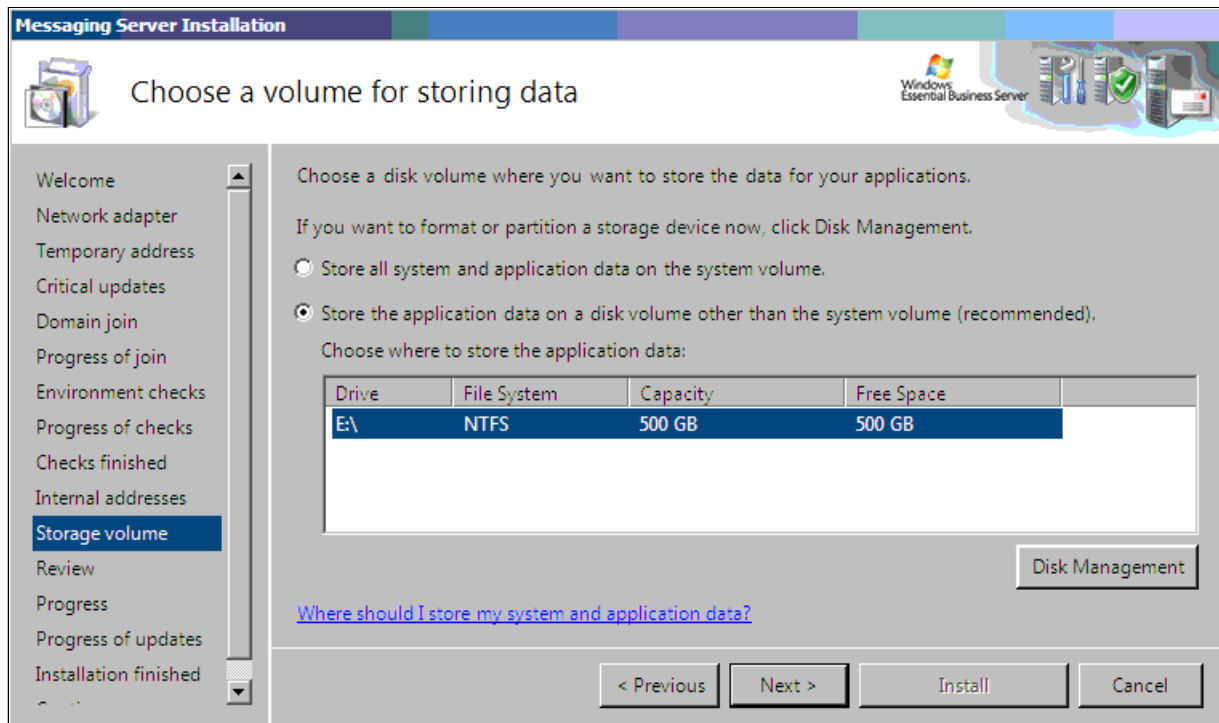

Figure 4-43 Choose a volume for Exchange data
15. On the “Choose a volume for storing data” panel (Figure 4-43), you can choose to store application data on a volume that is separate from your system volume.